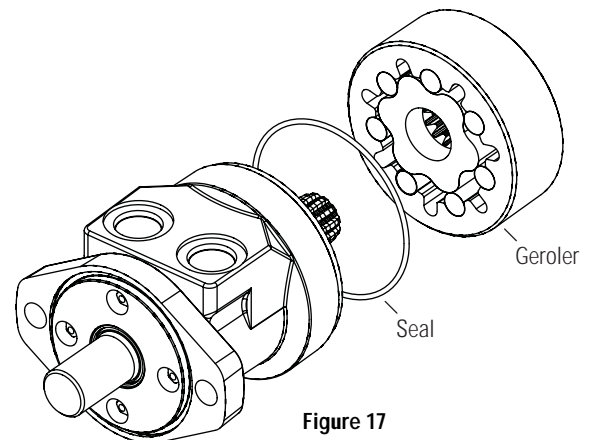
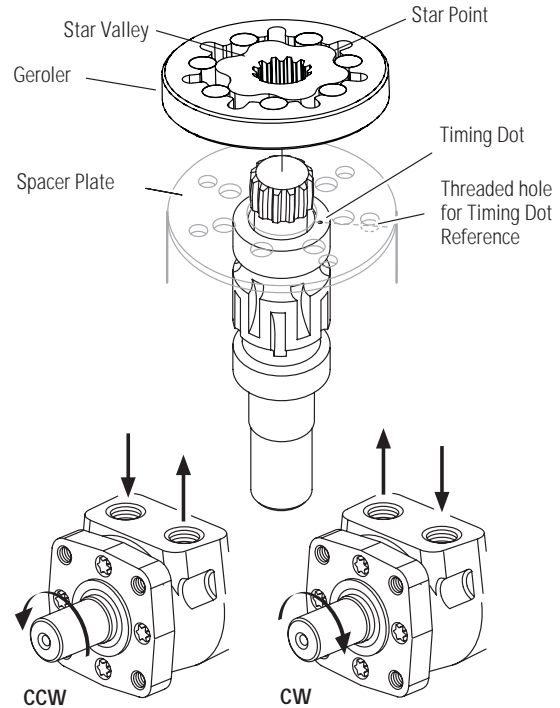

Figure 17
Figure 18
30. Install drive, observe proper timing procedure (Fig. 18).
32. Install seal in spacer plate seal groove, see Fig. 17. Avoid twisting seal.
33. Carefully place Geroler on the spacer plate, see Fig. 17. Observe proper timing procedure, see Fig. 18.